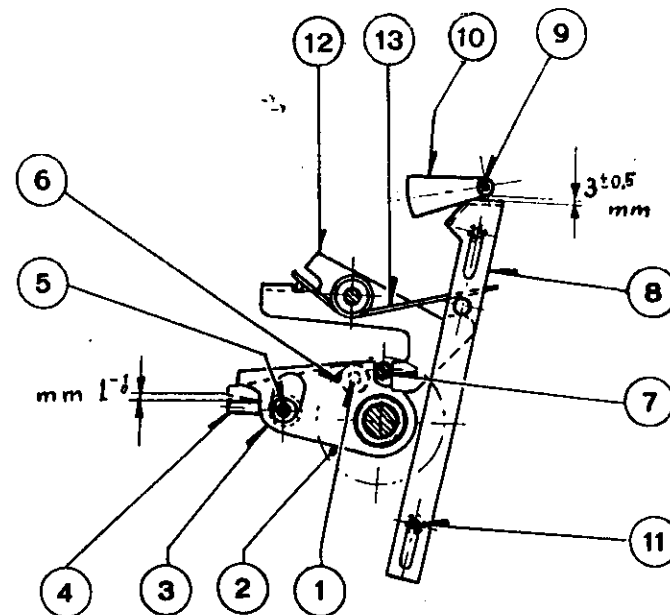

Fig. 9
- looseness of eccentric (6) (fig. 9); adjust as instructed under § 6.4.
- warpage of the trip rod (8) (fig. 9); check as instructed under § 6.5.
6.4. Adjustment of the closing spring mechanical lock (fig. 9)
- loosen scantily the screw (1)
- turn the knob (2) anticlockwise till the clearance between lever (3) and pin (4) of trip bar (5) is 0 to 1 mm
- rotate the eccentric (6) until it touches the pin (7) of the knob (2) and lock it in this position by tightening the screw (1)
6.5. Checking of the trip bar (8) for opening the breaker (fig. 9)